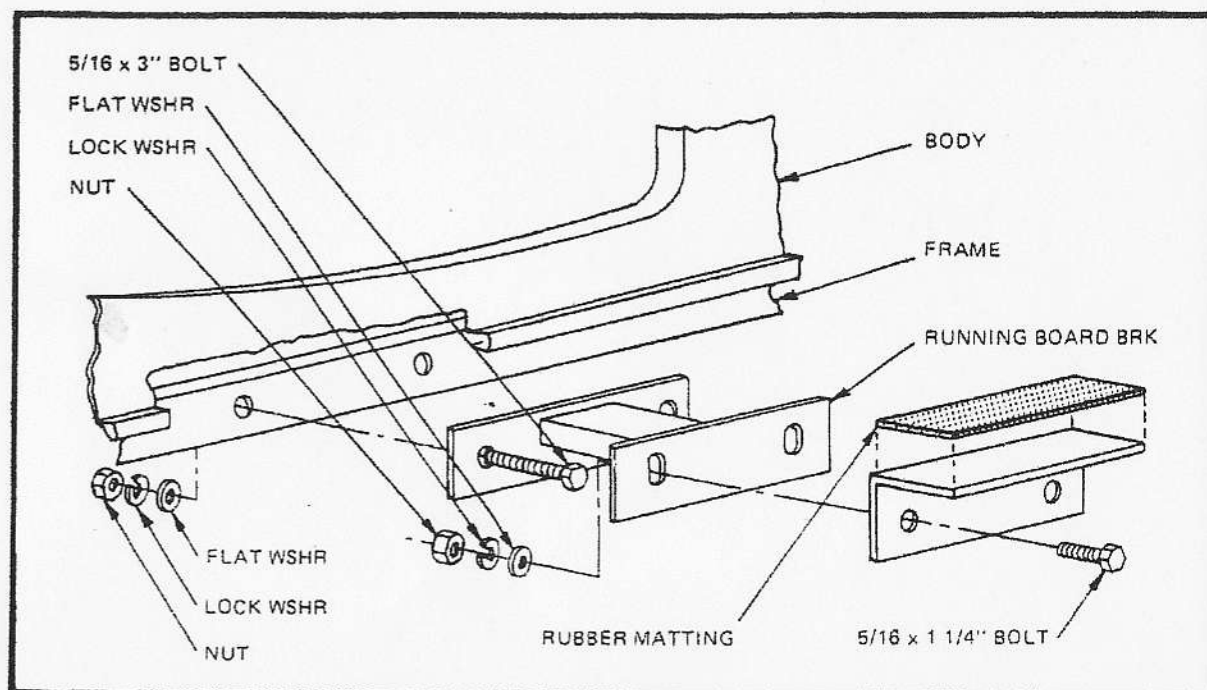

Figure 57
- ☐ Center running board bracket against main frame rail under running board. Position it until it just contacts running board. Mark hole locations and drill 2 holes, $\frac{3}{8}$ ", through frame rail. Attach bracket extension to bracket using 2 bolts, $\frac{5}{16} \times 1 \frac{1}{4}$ " with flat washer, lock washer and nut. Finger tighten. Glue a piece of rubber matting to the top of the extension to prevent squeaks. Bolt bracket to frame using $\frac{5}{16} \times 3$ " bolts with flat washer, lock washer and nut. Final adjustments will be made later. (Figure 57)